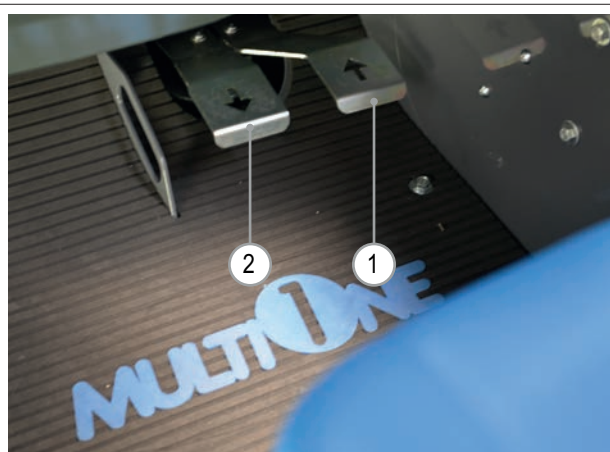

FIG. 23
- 4) Press the pedal relative to the direction of **"Forward"** (FIG. 23 - Ref. 1) or **"Reverse"** (FIG. 23 - Ref. 2).